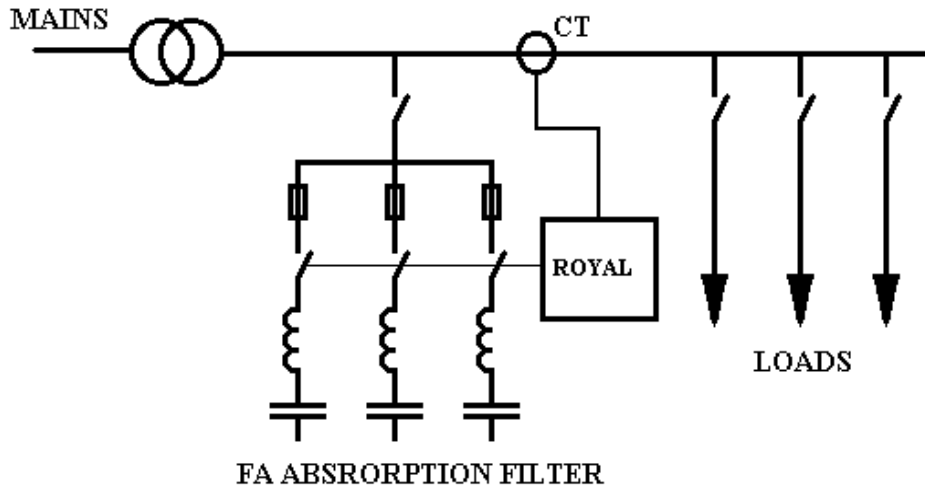

Fig. 5.- CT placement in FA.../A , automatic types
- In case of an FA.../A filter, with automatic control by means of ROYAL relay, a **current transformer (CT)** must be placed externally to measure the current at the load. Assuming that the load is reasonably balanced the CT can be placed at any phase. Fig 5 schematically shows the right placement of CT.